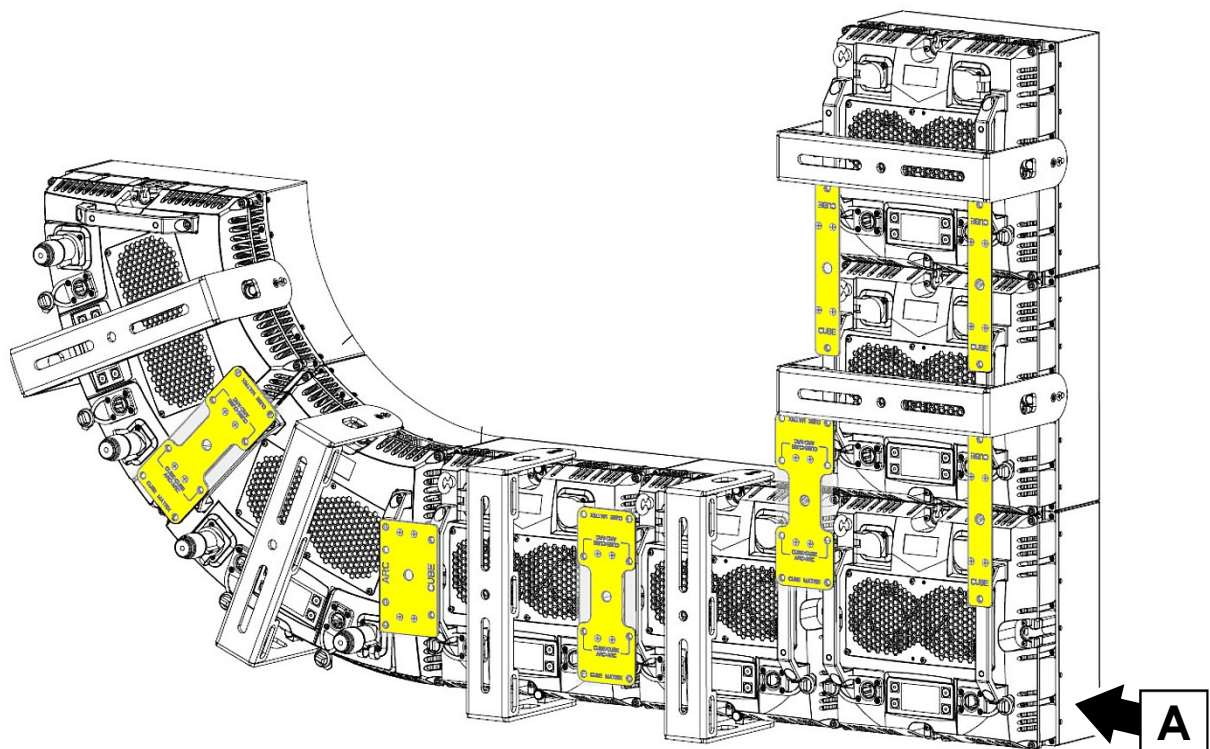

Figure 19. Creative array: example
To install a creative array consisting of a mixture of KNV Cube and Arc fixtures, see Figure 19.
3. Add fixtures, fastening them to the supporting structure using their installation brackets and rigging clamps, fastening them to each other using KNV Module Connectors, and aligning them with the existing fixtures using KNV Connector Plates fastened to their handles with the supplied Allen screws. You must use one bracket and rigging clamp per fixture unless a fixture (like fixture **A** in Figure 19) is fastened on at least two sides to fixtures that are supported using installation brackets and rigging clamps.